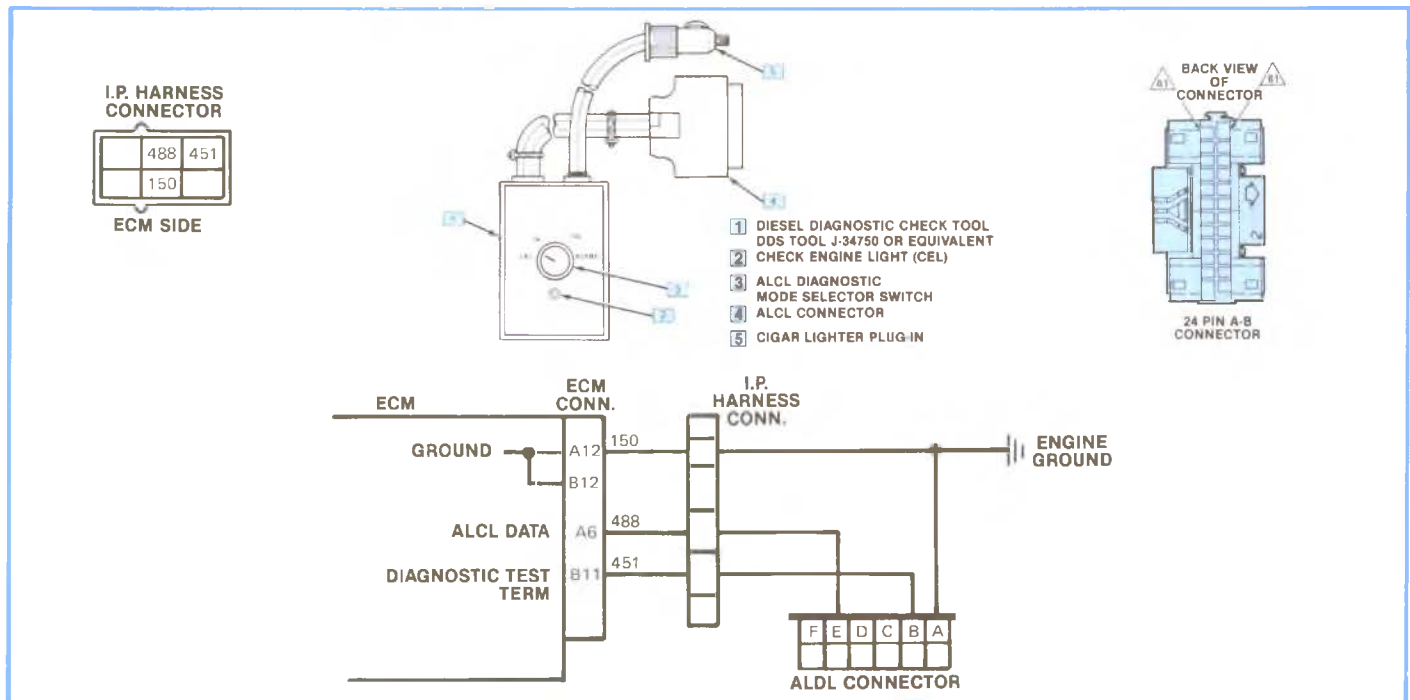

Figure 5-24, 1984 DDC Tool Check Schematic.
See Figures 5-24, 5-25 and 5-26. The Diesel Diagnostic Check (DDC) Tool is a combination "Check Engine" Light (CEL), and diagnostic mode selector. The tool allows a check on the ECM's ability to detect a fault and set a CEL. The mode selector assists diagnostics if a fault is present, even if there was no CEL.
1. Check to see if the DDC tool is supplied with 12 volts. Light should be "ON" with only the power cord installed. See Figures 5-24 and 5-25.